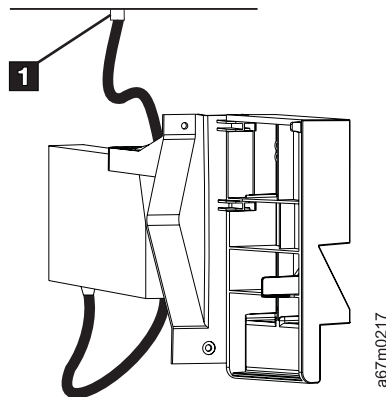

Figure 106. Routing the Bar Code Scanner Cable
- ___ 5. After connecting the bar code scanner cable (**1** in Figure 106), route the excess cable using an "S" loop and hold the cable as shown in Figure 106 while sliding the bar code scanner assembly into the library.